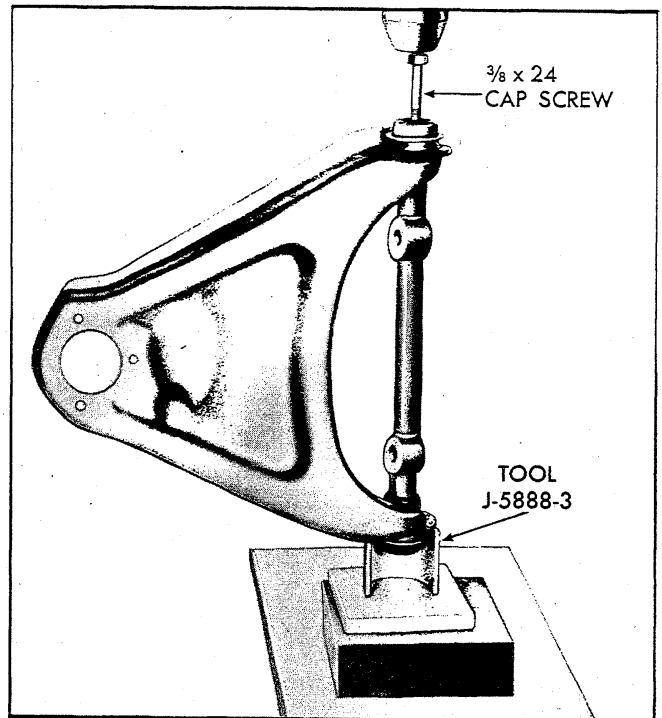

Fig. 41 - Removing Upper Control Arm Cross Shaft Bushings
3. Support control arm in an arbor press on Tool J-5888-3 as shown in Figure 41.